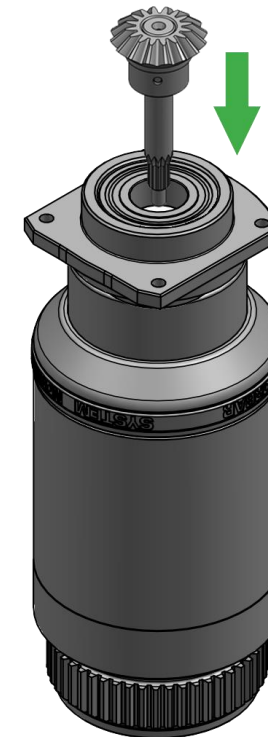

FIGURE 5 – Inserting Output Shaft and Straight Mitre Gear
5. The gearbox output shaft, needle roller and straight mitre gear come pre-assembled. Insert this assembly through the 6003-2Z ball race and make sure it is fully pressed down to ensure correct location. See figure 5.